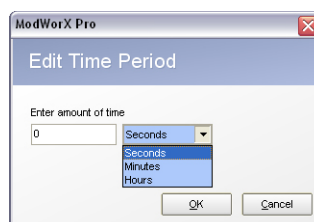

Figure 7.9
- Adjust the output period by clicking the **Edit** button (Figure 7.9). The output period can be entered in terms of seconds, minutes or hours.